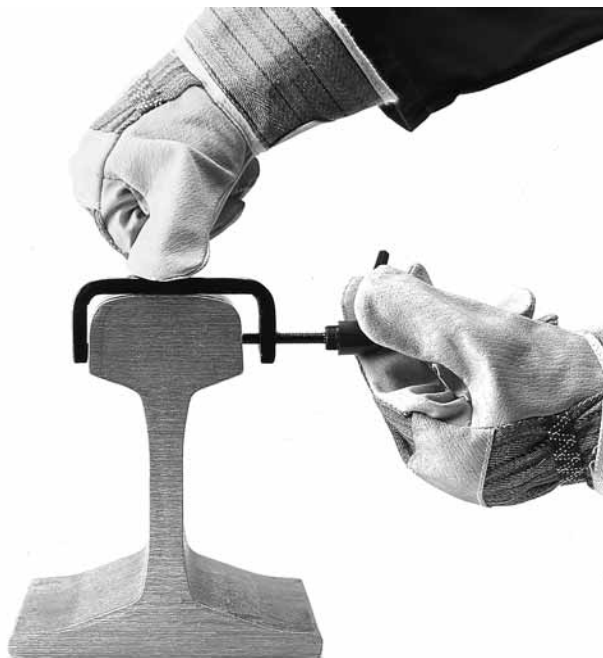

FIG. 23 – ASSEMBLY OF THE MRF CLAMP
- 11.2.2) Fit the **MRF** clamp on the head of the rail, keeping it in contact with the rail head at a point which defines the origin of the drilling centres, by locking it in position with the lever. The lever is provided with a return pushbutton for moving in any direction after locking. (See Fig. 23)